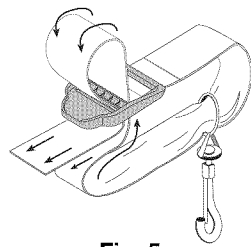

Fig. 5
2. Pull the strap over the cross bar and down through the slot in the buckle (Fig. 5).